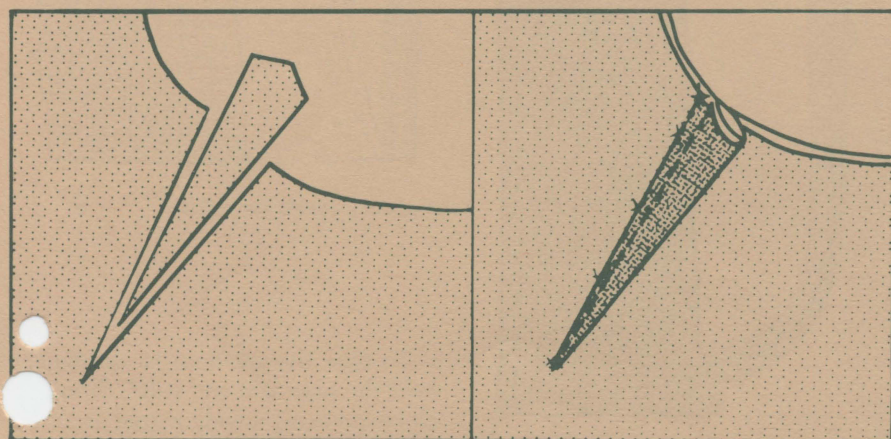

Figure 4. Dart in fusible interfacing
- *Fusible Interfacing*. Cut out the dart entirely. Fuse interfacing to fashion fabric before constructing garment dart (Figure 4).